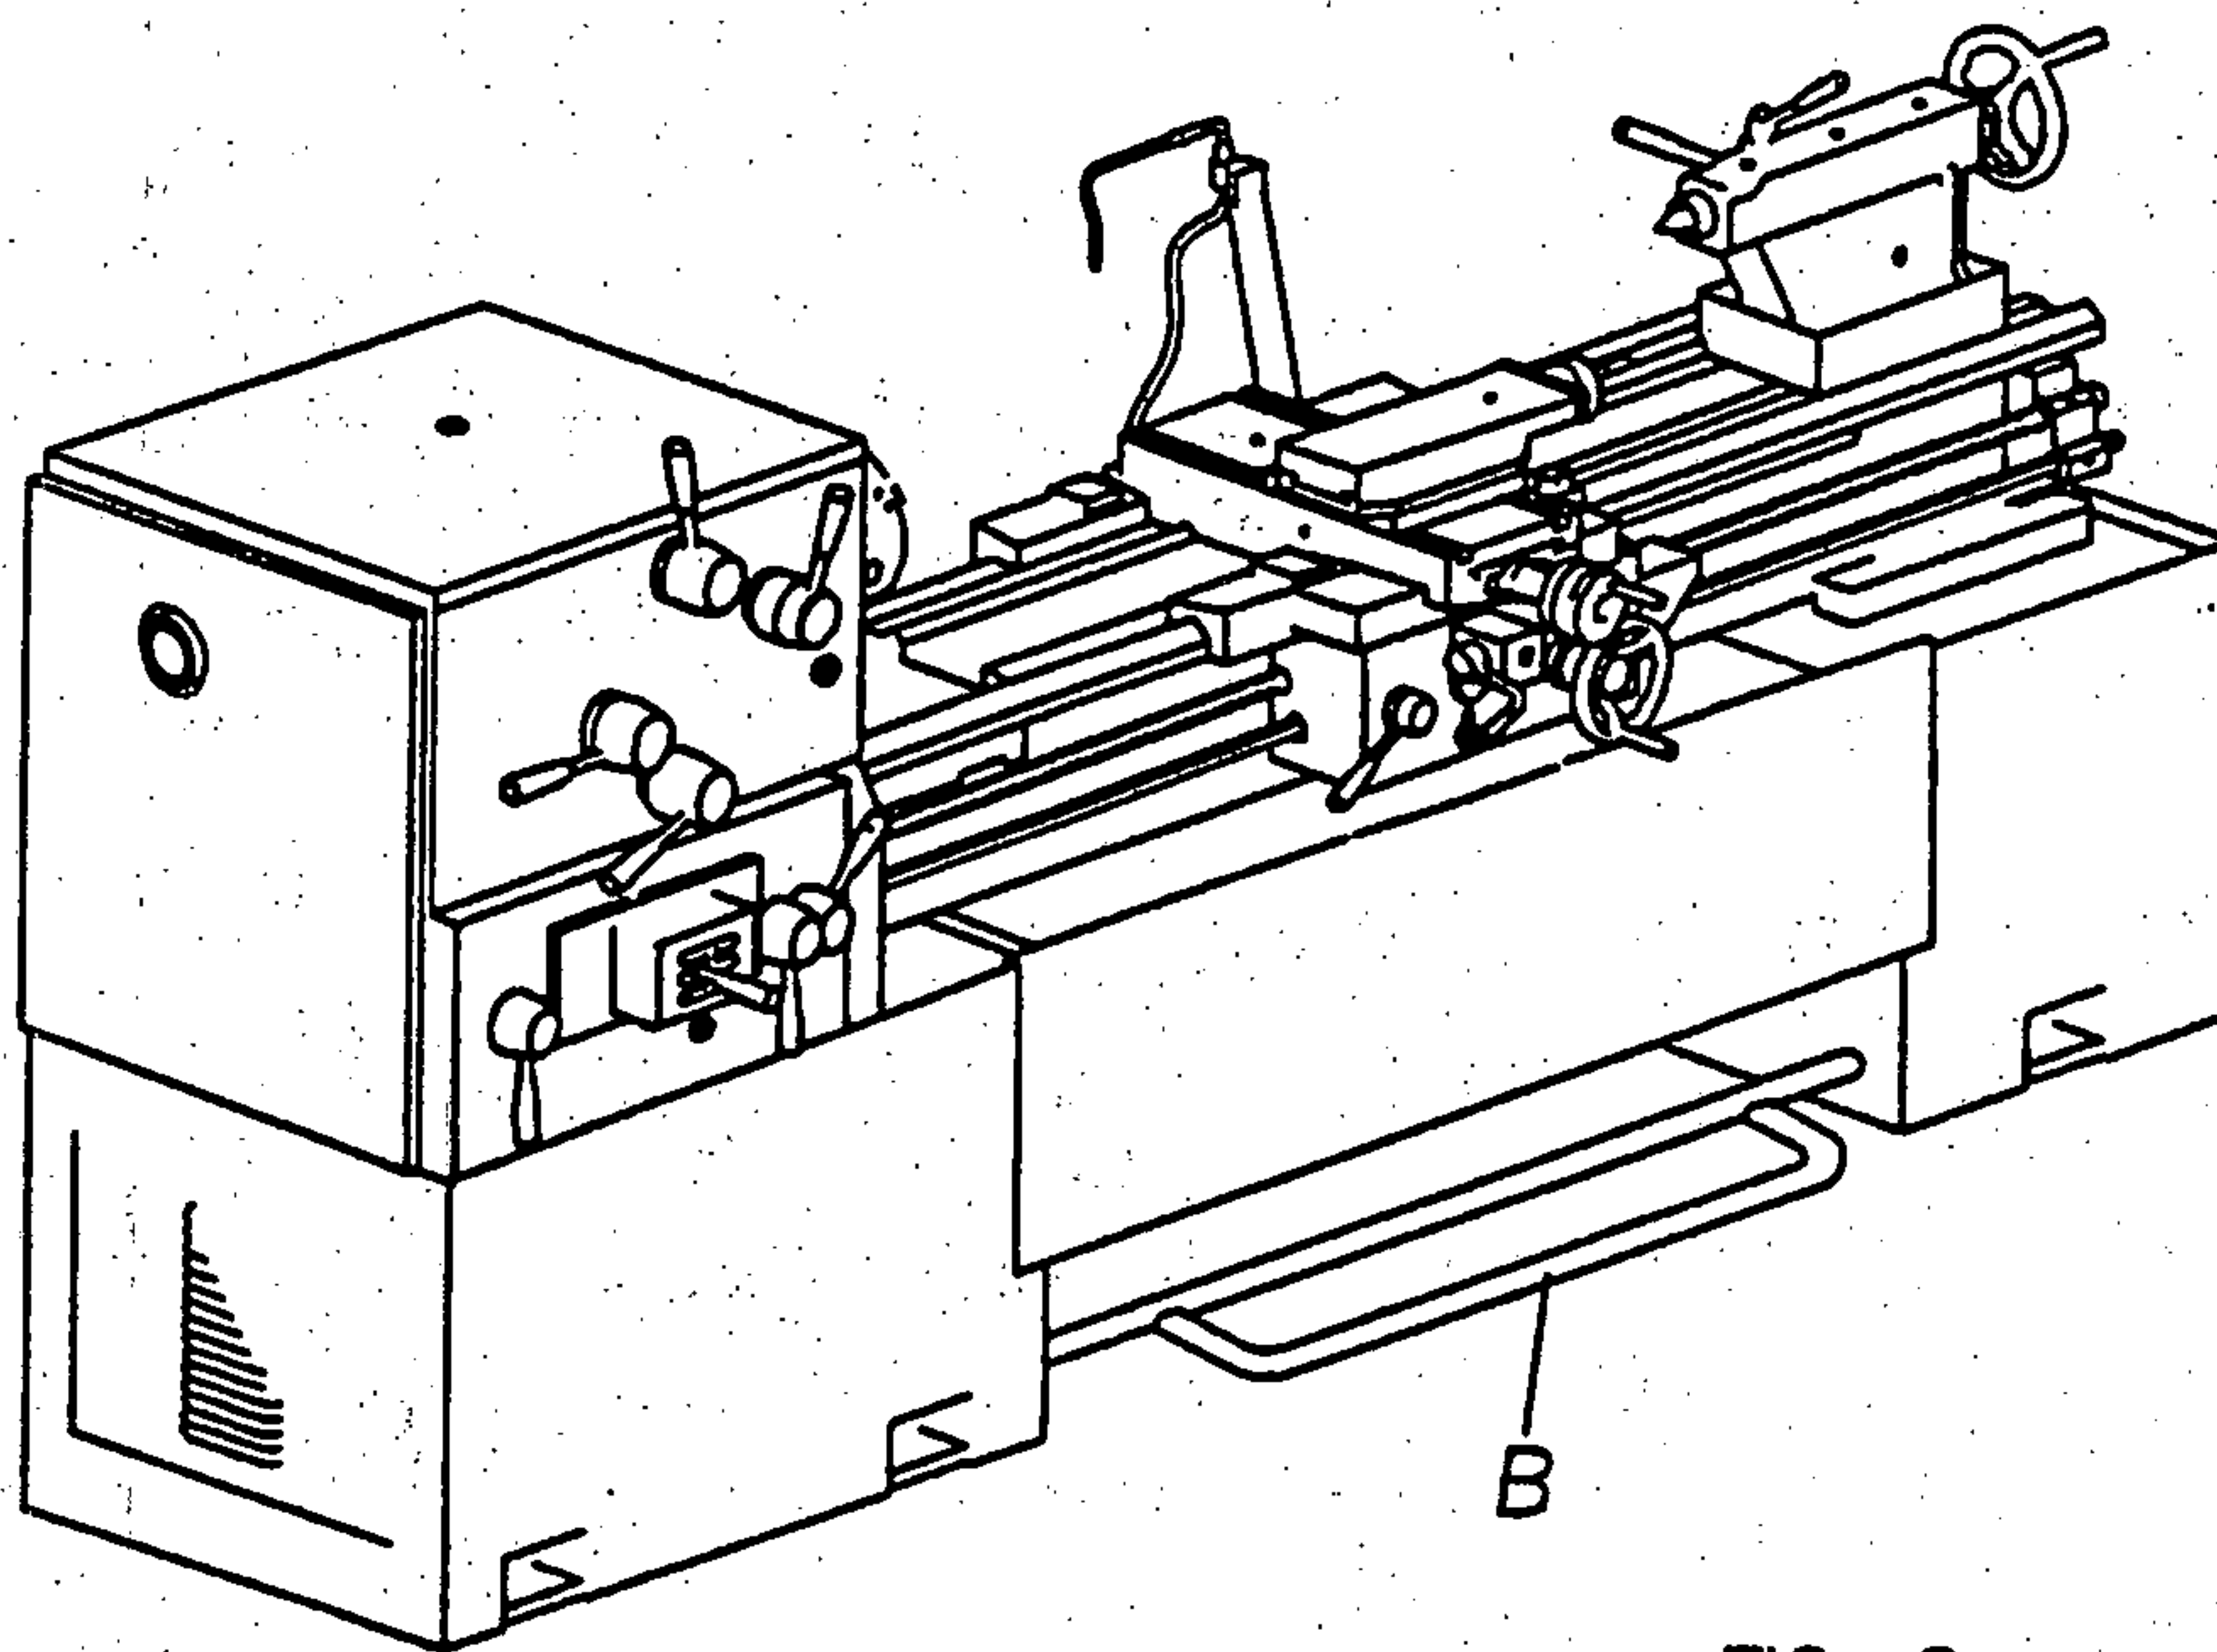

FIG. 2
- Depress the brake pedal (B) Fig. 2, slightly to stop the machine.
- To start the machine up again, use handle (A) according to start up instructions.